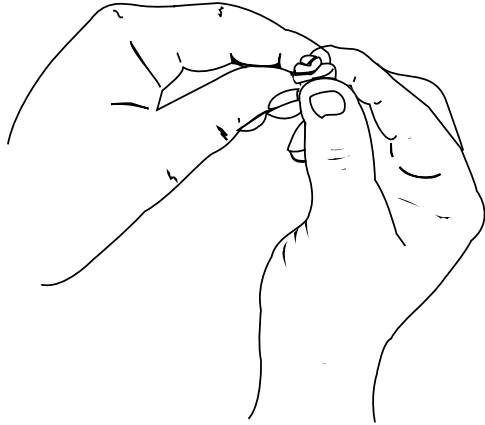

Fig. 32
5. Squeeze the filter to spread and remove excess oil (Fig. 32).